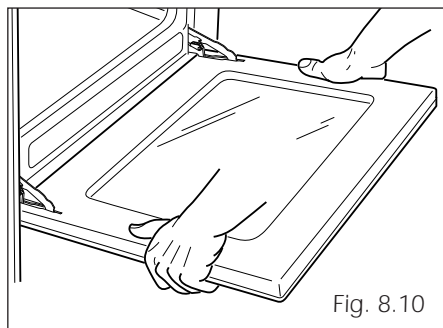

Fig. 8.10
- Hold the door as shown in fig. 8.10.